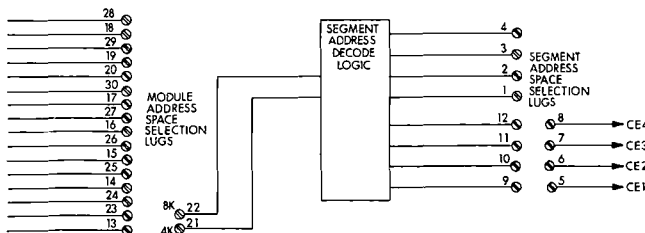

FIGURE 3. DESIGNATIONS FOR SPLIT LUGS PROVIDED FOR ADDRESS SPACE ASSIGNMENT
1. By jumper-connecting specific module address space selection lugs (see Figure 3) which are part of a total set of split lugs provided on the module for the explicit purpose of address space assignment;
Within the module, each 1K segment can be assigned to one of the four 1K address spaces in a 4K space or in an 8K space through appropriate connection of the segment address space selection lugs (see Figure 3).
In order to clarify the manner of assigning a memory module to a specific address space, a series of examples is presented which relate specific lug-to-lug connections to address space assigned. These examples require reference to Figure 3 and Table 1.
Table 1 shows the lug-to-lug and corresponding pin-to-pin connections for a 64K address space. However, the examples presented are, for purposes of clarity, concerned with the first or low order 16K address space. In principle, these examples are applicable throughout the full 64K address space, and differ only in the specific connections made between lugs 21 and 22 and the remaining Module Address Space Selection lugs (see Figure 3).